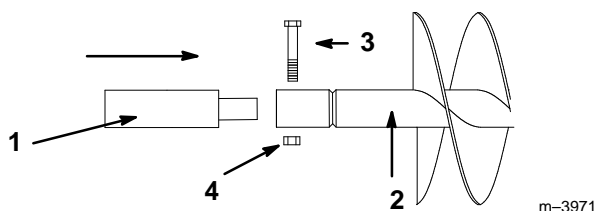

Figure 6
7. If using an extension with the auger, insert the end of the extension into the end of the auger and secure the auger to the drive head with the 7/8"-9 x 4-1/2" bolt and 7/8"-11 nut (Fig. 6).